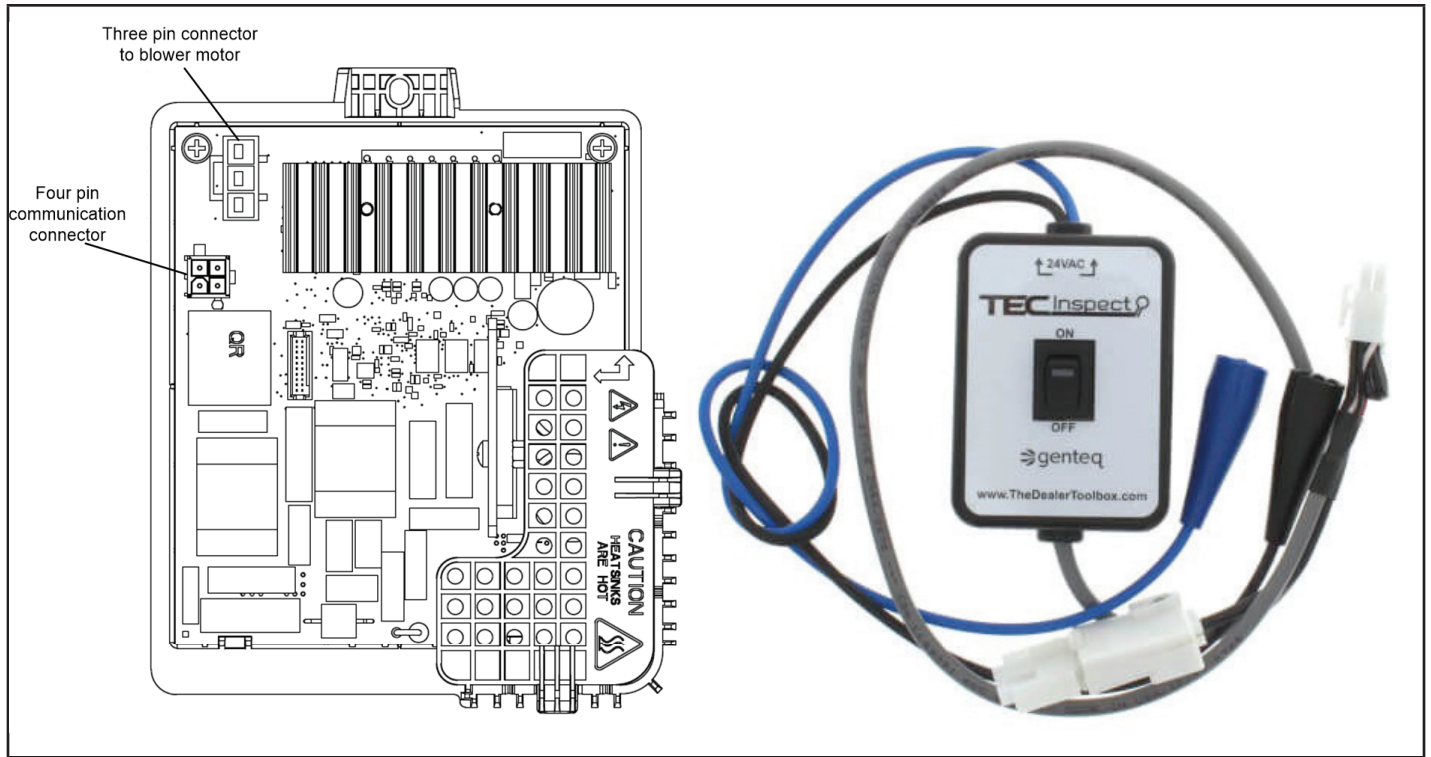

Figure 1
- 4 - After troubleshooting motor windings, connect blower motor to blower drive three-pin connector. See figure 1.
- 5 - Connect one end of the blower drive-tecmate adapter harness to the four-pin communication connector of the blower drive (figure 1). Connect the other end of the blower-drive tecmate adapter harness to the four-pin connector on the TecMatePRO.
- 6 - Ensure the TecMatePRO/TecInspect switch (figure 1) is in the OFF position.